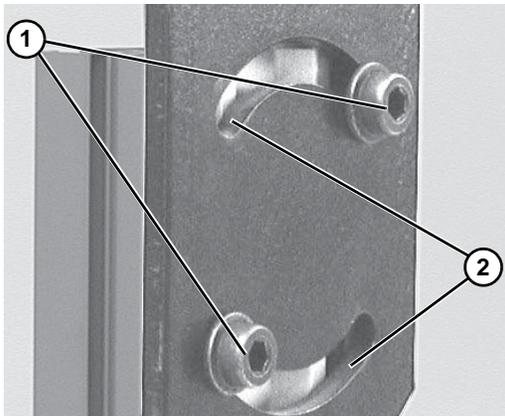

Figure 4
<p>To rotate stand top plate, screws (Figure 4, item 1) may need to be re-located to other t-slots (Figure 4, item 2).</p>
1. Loosen flange socket screws (Figure 4, item 1) on both sides of stand.
<p>Failure to secure screws (Figure 4, item 1) may cause conveyor sections to drop down, causing severe injury. TIGHTEN SCREWS (Figure 4, item 1) AFTER ADJUSTMENT.</p>
3. Secure flange socket screws (Figure 4, item 1) to 24 ft-lb (18 Nm).